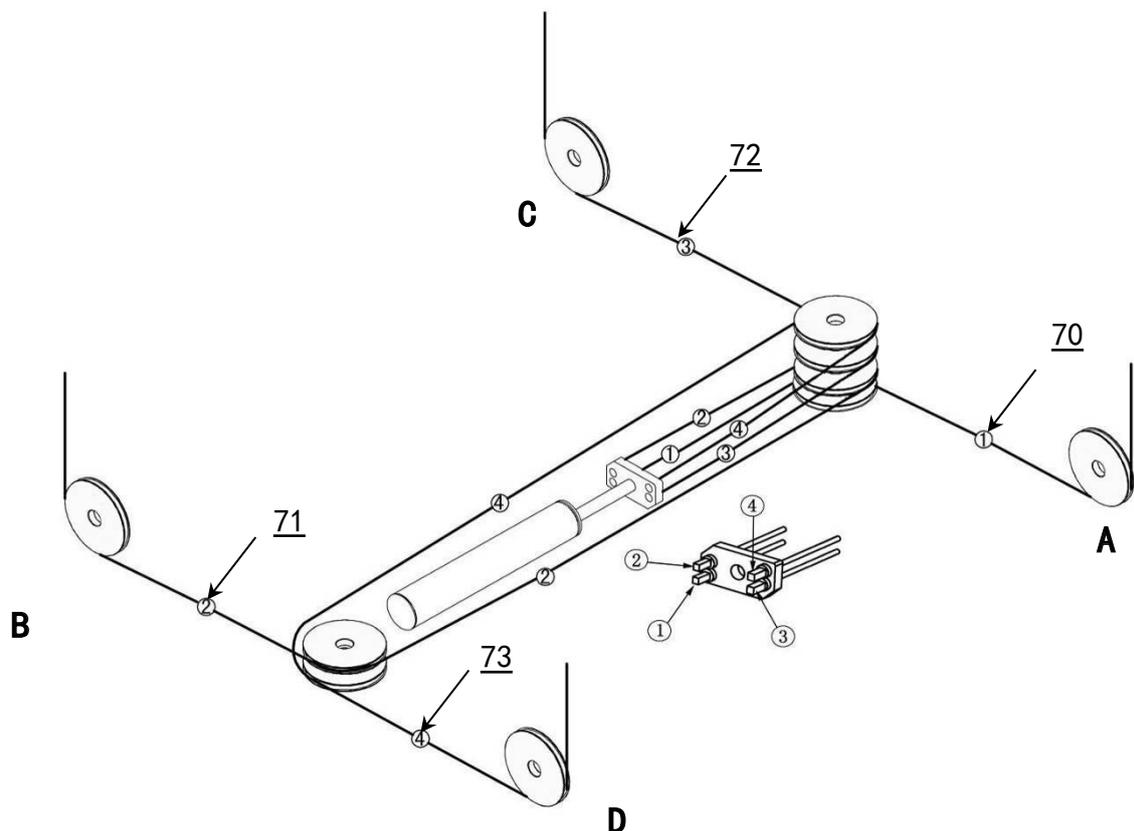

Fig.20
J. Instalar cabos (Ver Fig.20):